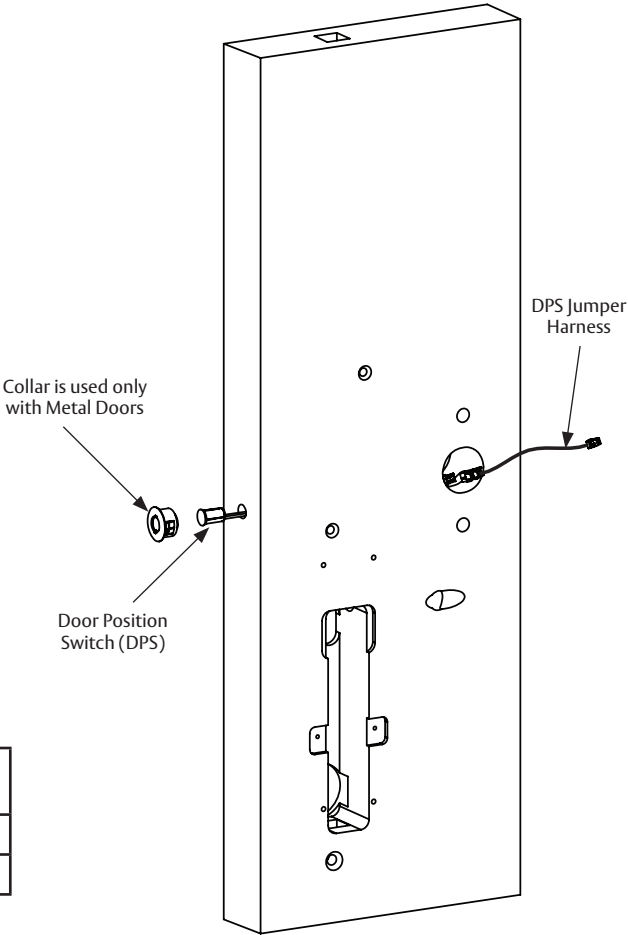

Figure 8-2A
1. Insert connector end of DPS through the raceway on the latch edge of the door (Figure 8-2A).